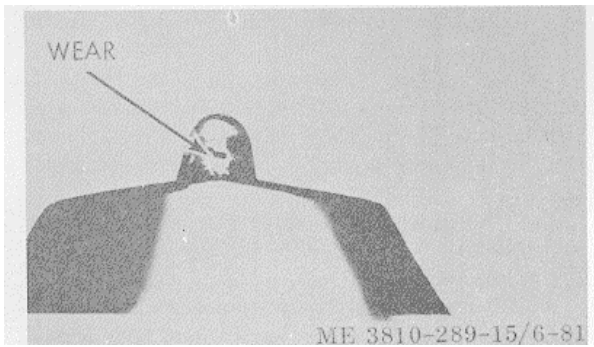

Figure 3-77. Worn injector cup tip.
1. Abrasive wear: This wear can begin internally; therefore, inspect both interior and exterior, figure 3-77.